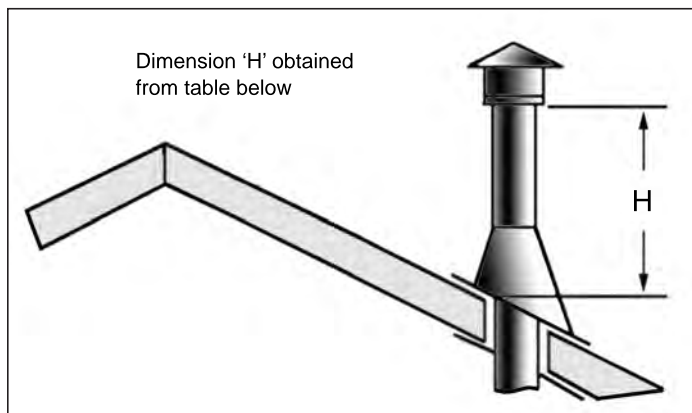

Figure 31: Height of Vertical Termination; Reference Table 7.
- STEP 8.** Continue to add pipe sections until the height of the vent cap meets the minimum code requirements. Refer to Figure 31 and Table 7. Note that for steep roof pitches, the vent height must be increased. In high wind conditions, nearby trees, adjoining roof lines, steep pitched roofs, and other similar factors can result in poor draft, or down drafting. In these cases, increasing the vent height may solve the problem.
Table 7: Minimum 'H' for Figure 31.